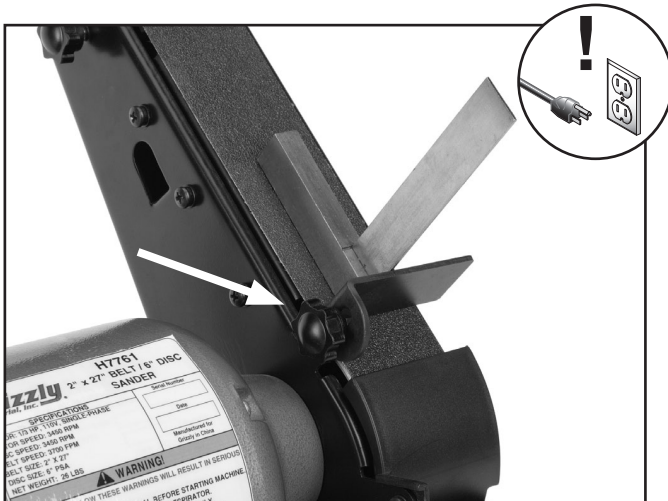

Figure 8. Squaring the back stop
2. Attach the back stop with the knob, washer and hex nut as shown in **Figure 8**.
3. Square the back stop as shown in **Figure 8** and tighten the back stop knob.